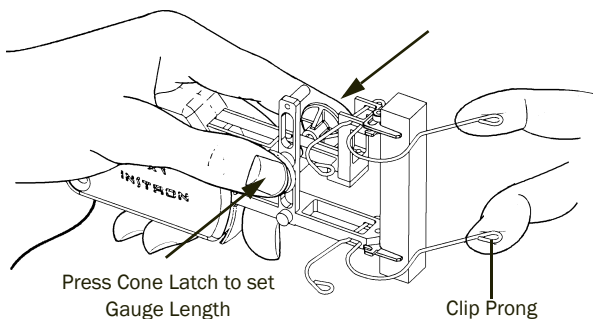

Figure 8. Two-Handed Installation
2. Using the other hand open the wire clips to clear the specimen, as shown in Figure 8.